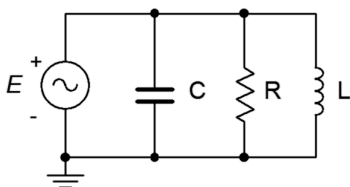

Figure 7.7
7. For the circuit shown in Figure 7.7, determine apparent power S , real power P , reactive power Q and power factor PF . The source is 120 volts, $X_L = j40 \Omega$, $X_C = -j25 \Omega$, $R = 20 \Omega$.
8. For the circuit shown in Figure 7.7, determine apparent power S , real power P , reactive power Q and power factor PF . The source is 120 volts, 60 Hz. $R = 80\ \Omega$, $C = 20\ \mu\text{F}$, $L = 400\ \text{mH}$.